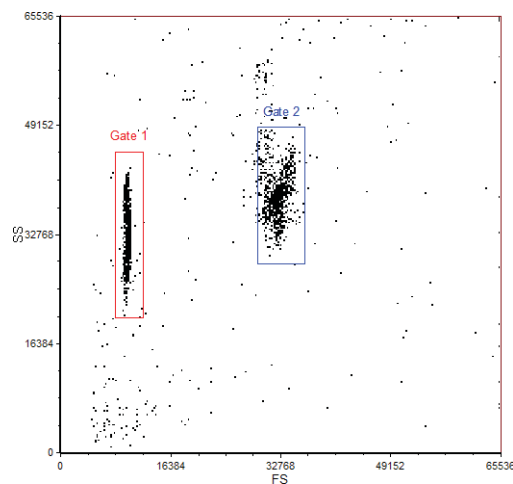

Figure 1
- 1) Adjust FS and SS gains so that the bead populations are on scale (Figure 1).
- 2) Create Gate 1 for the smaller (4-micron size, S4) beads and Gate 2 for the larger (5-micron size, S5) beads (Figure 1).